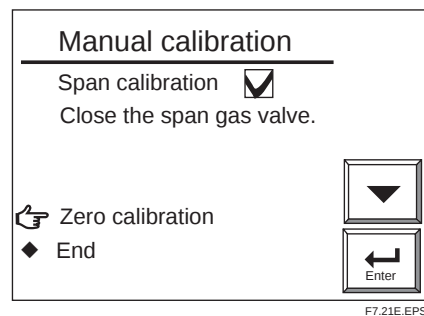
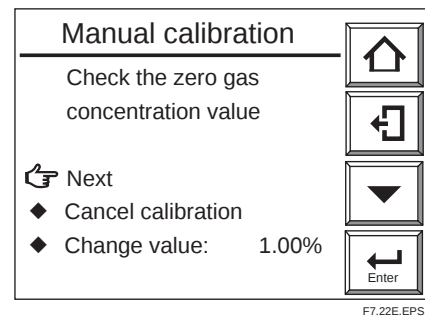

**Figure 7.19 Span-gas Flow Display
**Figure 7.20 Manual Calibration Trend
- (3) Follow the display message in Figure 7.19 to turn on span gas flow. Open the span-gas flow valve of the Flow Setting Unit by loosening the valve lock-nut and slowly turning the valve shaft counterclockwise to set the span gas flow at 600 ± 60 ml/min. Use the calibration gas flowmeter to check the flow.
- (4) If “Valve opened” is selected as in Figure 7.19, an oxygen-concentration trend graph (with the oxygen concentration being measured) appears (see Figure 7.20). The CAL TIME in the bottom area of the panel flashes. Observe the trend graph and wait until the measured value stabilizes in the vicinity of 21 percent on the graph. At this point, calibration has not yet been executed, so even though the measured value is above or below 21 percent, no problem occurs.